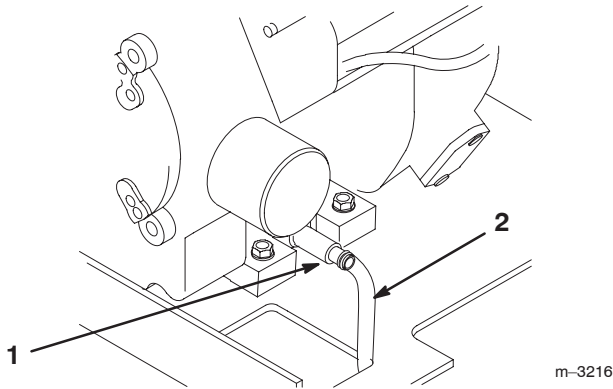

Figure 19
5. Open the drain valve by turning it counterclockwise, pulling out as you turn it (Fig. 19).